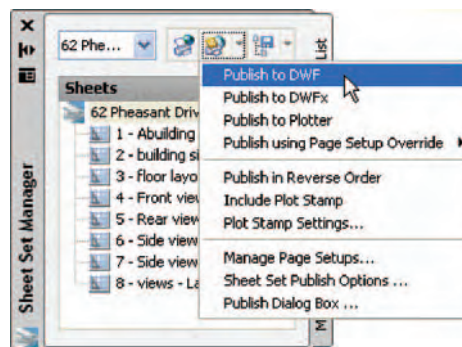
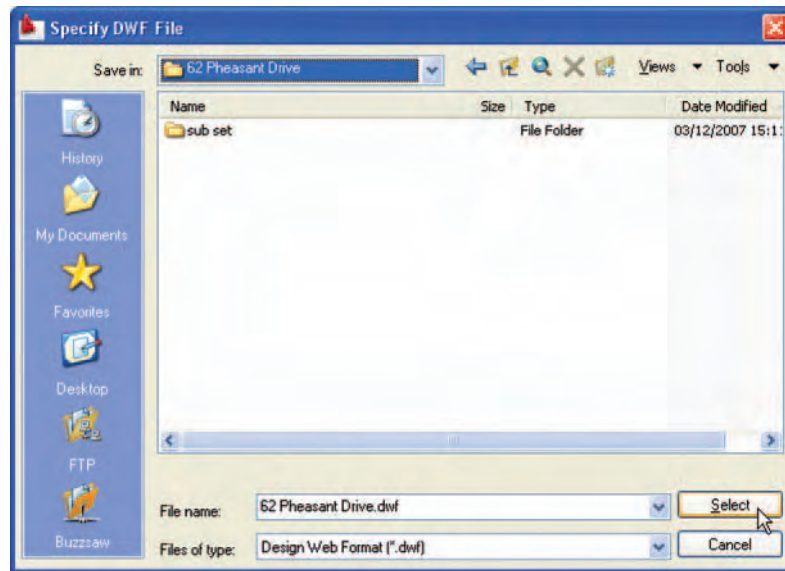
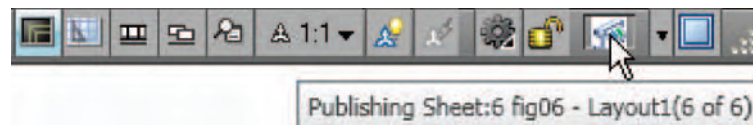
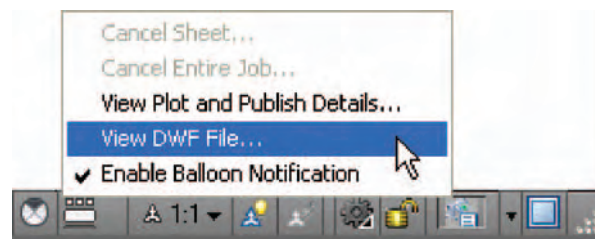

Fig. 11.10 The **Publish to DWF** icon in the **Sheet Set Manager**
Fig. 11.11 The Select DWF File dialog
Fig. 11.12 The Publish Job in Progress icon
Fig. 11.13 The right-click menu of the icon
1. In the **62 Pheasant Drive** Sheet Set Manager *click* the **Publish to DWF** icon (Fig. 11.10). The **Select DWF File** dialog appears (Fig. 11.11). *Enter* **62 Pheasant Drive** in the **File name** field followed by a *click* on the **Select** button. The **Publish Job in Progress** icon in the bottom right-hand corner of the AutoCAD 2009 window starts fluctuating in shape, showing that the DWF file is being processed (Fig. 11.12). When the icon becomes stationary, *right-click* the icon and *click* **View DWF file** in the *right-click* menu which appears (Fig. 11.13).